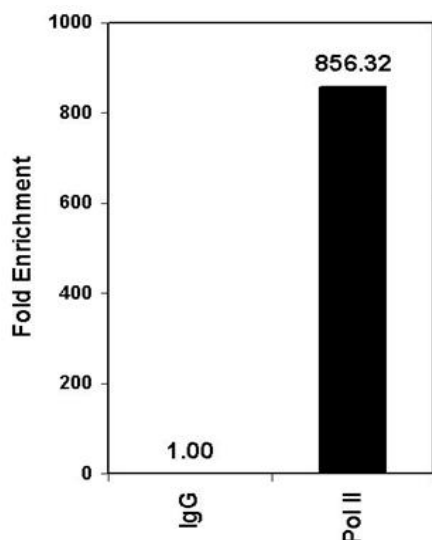

Figure 2: Real-Time PCR Results
Input DNA is required whether using relative standard curve method or the comparative Ct (delta-delta Ct) method. Target gene enrichment relative to IgG of greater than 8-10 fold is recommended for library construction. An example of appropriate fold enrichment relative to an IgG mock IP is shown in figure 2.
4. Use caps or an optical tape to seal the plate and start the qPCR reactions. Please refer to figure 2 for real-time PCR result.